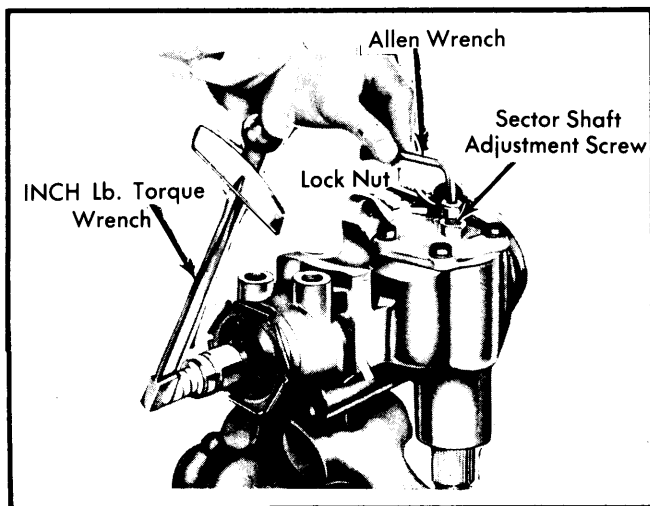

Fig. 3 Pitman Shaft End Play Adjustment
**Pitman Shaft Overcenter Sector Adjustment** – Ensure that gear is at center of travel. Back off preload adjuster until it stops, then turn in one full turn. (Note that small gear has LEFT HAND THREADS on adjuster and lock nut.) Check torque required to turn stub shaft and turn adjuster in until 6-10 INCH Lbs. more torque is required to turn shaft. Tighten adjuster screw lock nut and recheck torque. Total torque required should not exceed 14 INCH Lbs. for used gear or 18 INCH Lbs. for new gear. See Fig. 3.